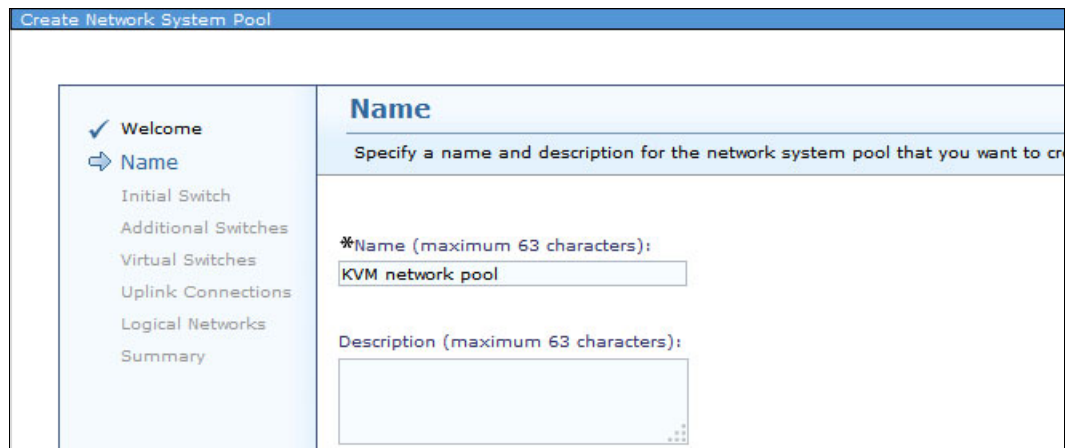

Figure 9-80 Create Network System Pool: Name
4. On the Name page, enter the network pool name and description, as shown in Figure 9-80. Click **Next**.